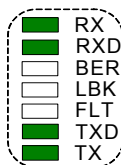

Figure 7: LED Status Indicators
19. Locate the LED Status Indicators (see Figure 7).